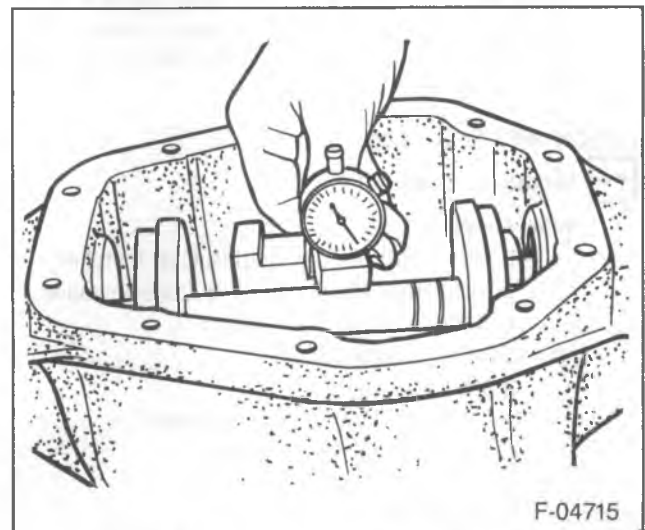

Figure 67—Scooter Gage on the Arbor
7. Slide the gage over the arbor (figure 67).